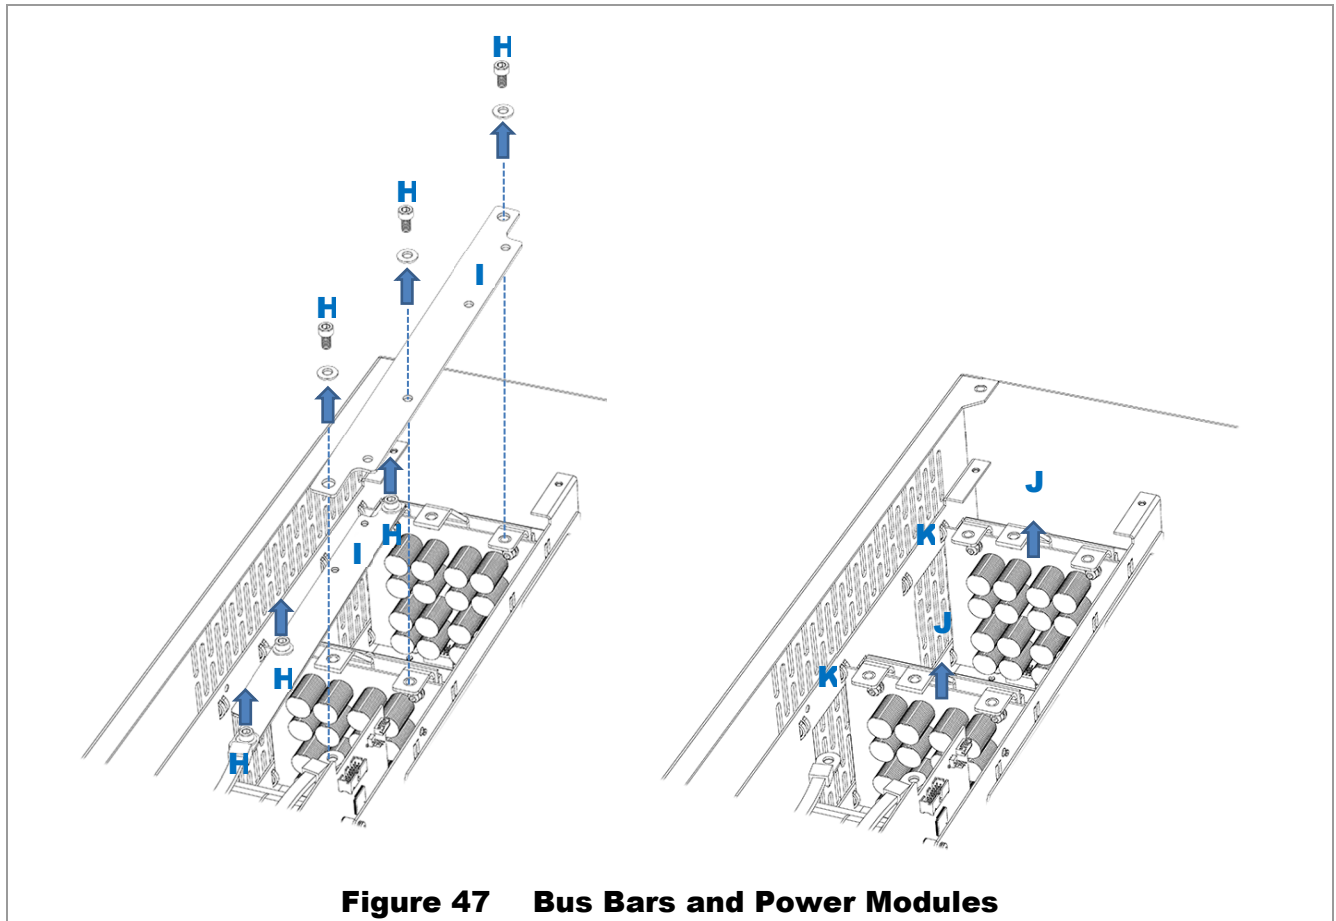

Figure 47 Bus Bars and Power Modules
6. Using a 5 mm hex (Allen) wrench, remove bolts for bus bars. See all items **H** in Figure 47. Remove the two bus bars **I**.
7. Remove the power module to be replaced. Pull upward to unsocket the module. See **J** in Figure 47.
- Insert the power module into its slot. Ensure that the new board is slotted into the card guides **K**. (See Figure 47.) Ensure it is seated firmly.
- Replace bus bars **I**. Replace bolts **H**. Tighten to a torque value of 60 in-lb (6.8 Nm). See Figure 47.